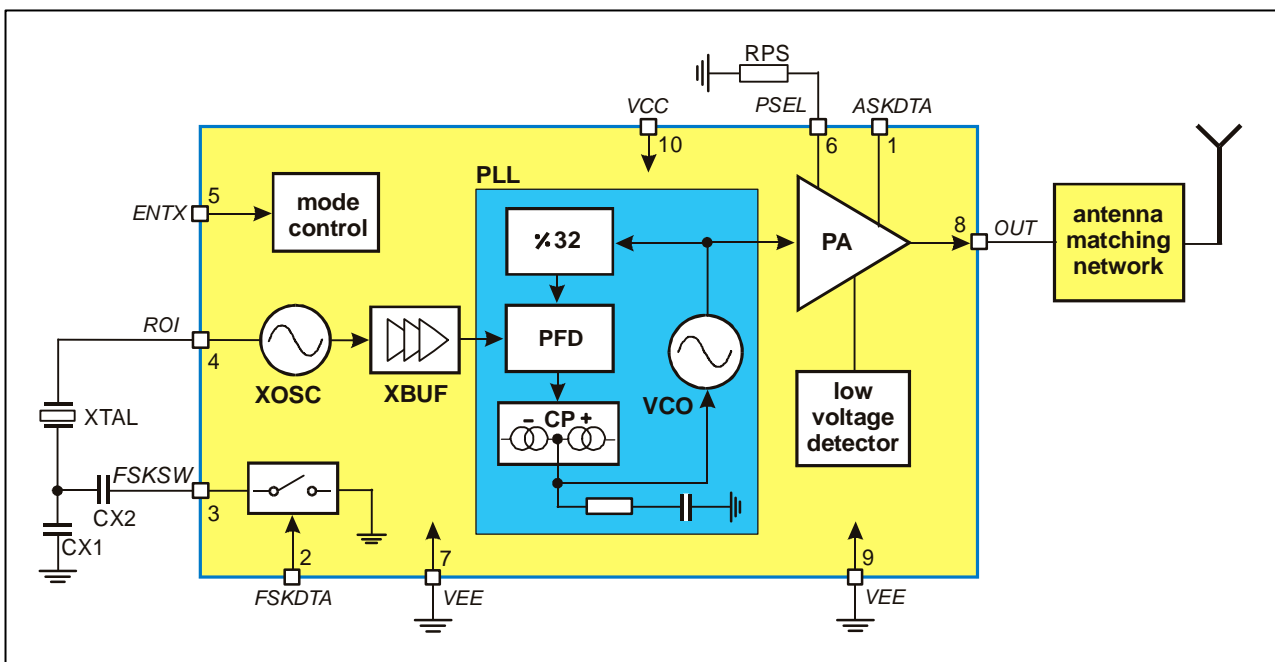

Fig. 1: Block diagram with external components
As depicted in Fig.1, the TH72035 transmitter consists of a fully integrated voltage-controlled oscillator (VCO), a divide-by-32 divider (div32), a phase-frequency detector (PFD) and a charge pump (CP). An internal loop filter determines the dynamic behavior of the PLL and suppresses reference spurious signals. A Colpitts crystal oscillator (XOSC) is used as the reference oscillator of a phase-locked loop (PLL) synthesizer. The VCO's output signal feeds the power amplifier (PA). The RF signal power  $P_{out}$  can be adjusted in four steps from  $P_{out} = -11$  dBm to  $+9.5$  dBm, either by changing the value of resistor RPS or by varying the voltage  $V_{PS}$  at pin PSEL. The open-collector output (OUT) can be used either to directly drive a loop antenna or to be matched to a 50Ohm load. Bandgap biasing ensures stable operation of the IC at a power supply range of 1.95 V to 5.5 V.